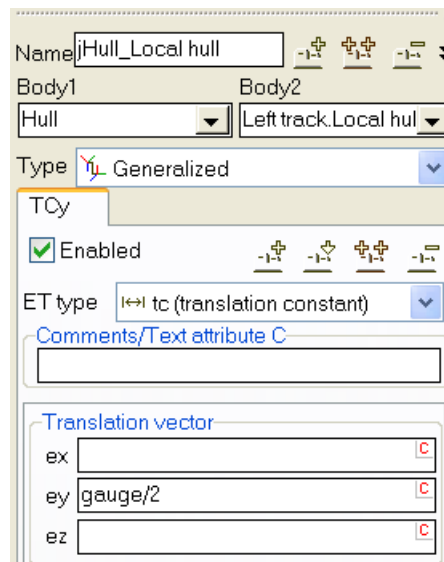

Fig. 31 Joint rigidly connecting hull of TV and local hull of left track
- Set the lateral shift of the track. In example in Fig. 31 the gauge is set by the identifier $gauge=2.6$ m.